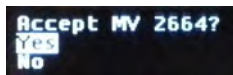

Figure 2.8-5. Muzzle Velocity True Screen (Save Prompt)
Step 2.) Once the Muzzle Velocity is set to the desired Range and Drop values, press the Left Button to exit the screen. A prompt asks you if you would like to accept the new MV value (see Figure 2.8-5). Use the Fire/Up and Adjust/Down Buttons to highlight the desired response and press the Enter Button to accept.